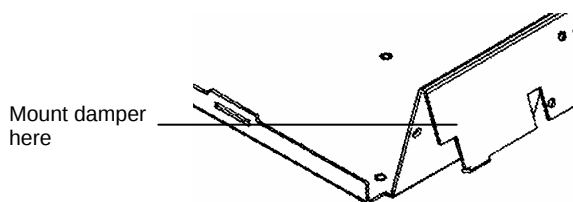

Figure C-3: Mounting the Pulse Damper
- The pulse damper is mounted on the rear of the front left side of the chassis plate (Figure C-3) using 2 of the 4 screws that are supplied with the pulse damper.